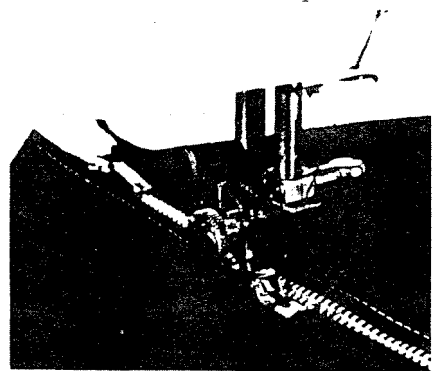

Fig. 50
2. To sew the left side of zipper, set needle position lever to "R", and stitch close to zipper teeth. (Fig. 50)